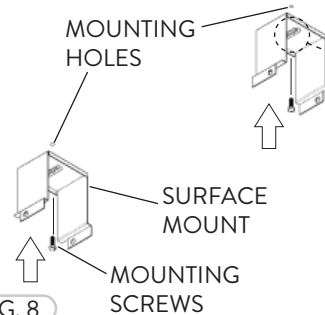
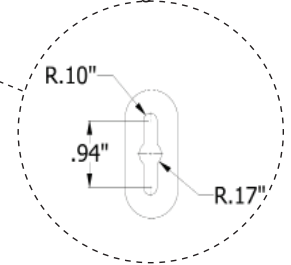

FIG. 8
FIG. 9
- 1 Install the Surface Mount to the Mounting Surface with the Mounting Screws (not included) (Fig. 8). The following figure is a detail of the Mounting Hole on the Surface Mount (Fig. 9).